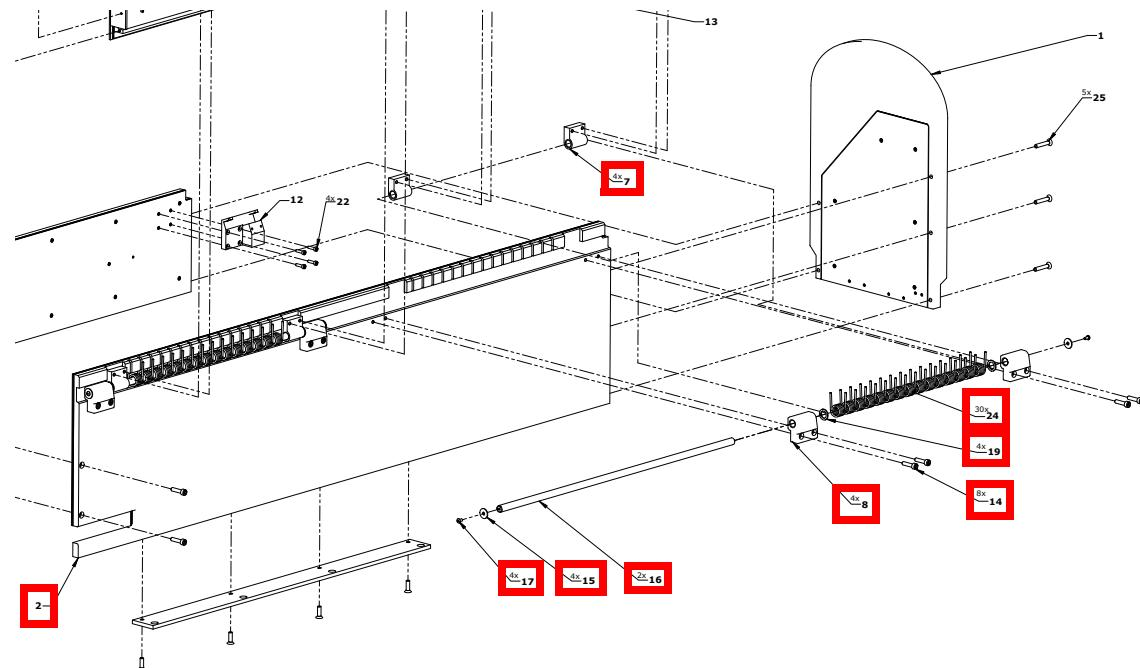

Figure 5-18
2. Refer to Figure 5-18 (shown oriented normally). From the end of the Hinge Shaft (5231866-2, Item 16) where the Seat to be removed is located, remove an M4 cap screw (2109872-2, Item 17) and flat washer (2390635-16, Item 15) and set aside.
3. Remove two (2) M6 socket screws (2109867-14, Item 14) holding the Fixed Hinge Seat (Item 8) to the Left Side Panel (5241209, Item 2). Set hardware aside.
See Figure 5-18.
1. Attach the replacement Lid Hinge Seat with the orientation shown in Figure 5-18 to the Shielding Lid Assembly with the M6 screws set aside earlier. Torque to 70 in-lbs.